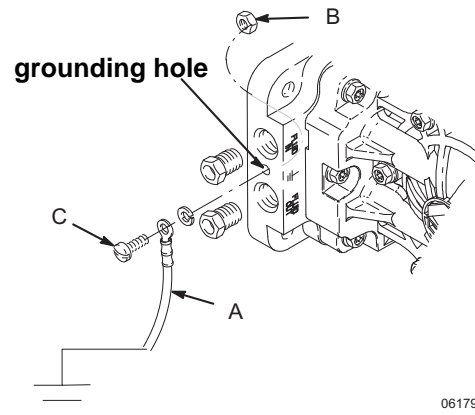

FIG. 1
The *polypropylene and PVDF pumps* are **not** conductive. When you pump conductive flammable fluids, **always** ground the entire fluid system. Make sure the fluid has an electrical path to a true earth ground, see FIG. 1. **Never** use a polypropylene or PVDF pump with non-conductive flammable fluids as specified by your local fire protection code.
Pump: Connect a ground wire (A) and clamp, Part No. 819.0157. See FIG. 1. The pump grounding locations are on the manifold between the inlet and outlet ports. Use the nut (B) and bolt (C) that are provided with the pump, and install as follows: